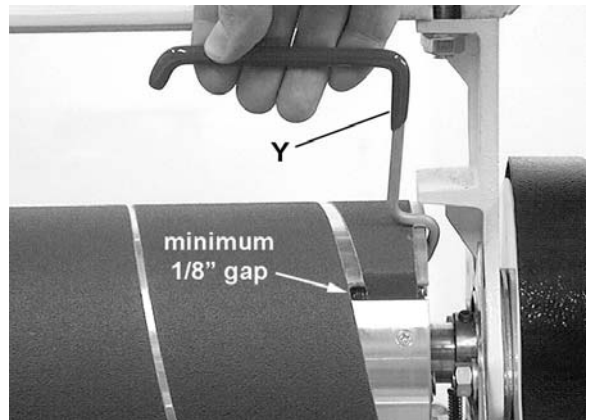

Figure 14
10. Turn the TUFTool counterclockwise and lower it onto the abrasive strip, making sure it is holding the paper tight (Figure 14).
IMPORTANT: Leave a gap – at least 1/8” – between the tapered strip and the closed end of the slot (Figure 14) to allow strip to be pulled into the fastener as needed. If necessary, trim the outside edge of the abrasive strip.